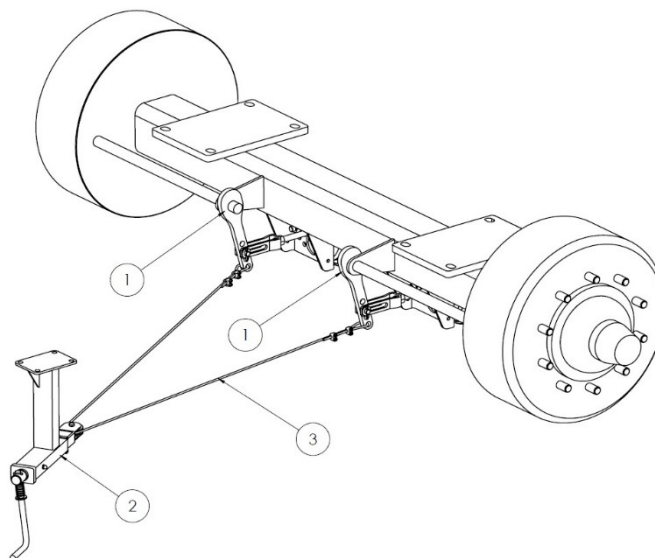

Figure 11 The parking brake
(1) air tank, (2) - control valve, (3) - brake-force control, (4) - hydraulic pneumatic cylinder, (5) - hose fitting (red), (6) - hose fitting (yellow), (7) - helical pipe (red), (8) - helical pipe (yellow), (9) – air-tank-control fitting, (10) - drainage valve, (11) – air-cylinder-control fitting, (12) - emergency valve, (13) hydraulic accumulator, (14) hydraulic quick coupling (15) emergency valve-activation chain
The parking brake is used to immobilise the spreader while it is parked. The components of the system are shown in Figure 11. The tension assembly (2) is mounted on the left-hand side of the structure. The expander levers (1) of the axle are connected to the crank device by means of a steel cable (3). Turning the crank of the tension assembly pulls the cable (3) and swivels the expander lever to activate the spreader brakes. The brake is released by turning the crank of the tension assembly to the left.